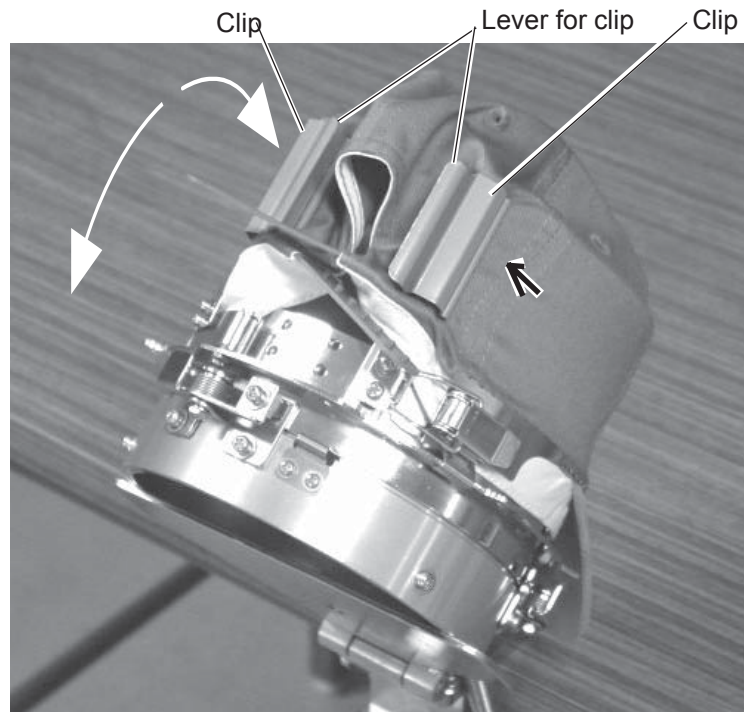

Fig. 4
6. As shown in Fig. 4, tip the cap stretcher forward. Clip the back of the cap and nonwoven fabric in two places.